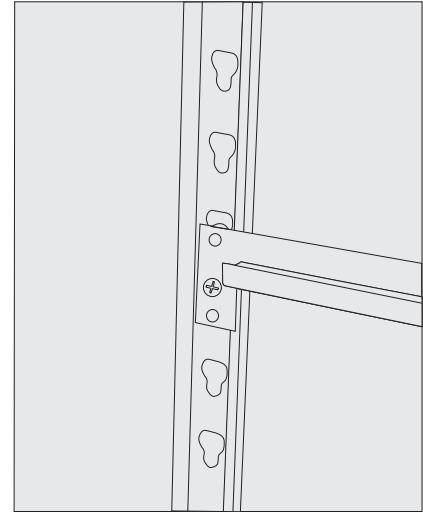
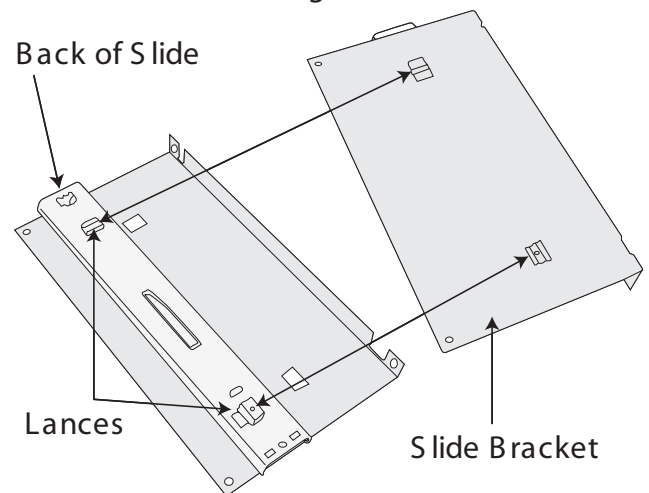

Figure 1
Figure 2
1. Starting from the bottom, install shelf supports in the front and back (8) keyhole slots (12") up from the Quik-Base. Secure the back shelf support to the posts using a Tek screw through the holes in the ears of the shelf support (see figure 1).
2. Install (4) Rivet Brackets (3) keyhole slots (5") down from the shelf support in the posts.
3. Install slides in slide brackets by slipping lances in slides into the slots in the slide brackets. (LH slide in LH bracket, RH slide in RH bracket (see figure 2).